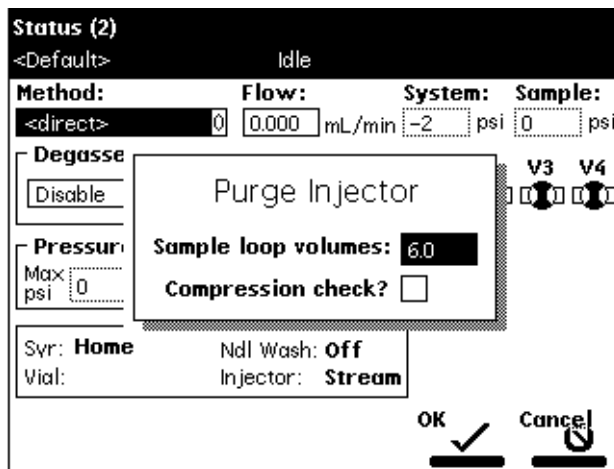

Figure 4-11 Purge Injector Dialog Box
2. Select the **Purge Injector** option, then press **Enter**. The Purge Injector dialog box appears (see Figure 4-11).